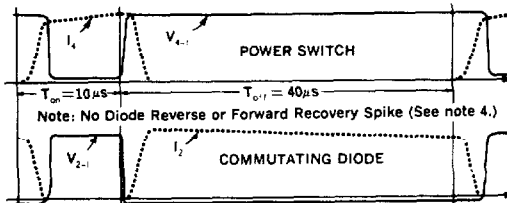

Figure 2. PIC645, 646, 647 Switching Waveforms
- No reverse recovery spike generated by commutating diode (See note 4. and Fig. 2.)
| Voltage Fall Time           | $t_{fv}$     | —              | 70   | 175  | —              | 100  | 300   | ns      | See Figure 2                                      |
- In switching an inductive load, the current will lead the voltage on turn-on and lag the voltage on turn-off (see Figure 2). Therefore, Voltage Delay Time ( $t_{DVI}$ ) =  $t_{di} + t_{ri}$  and Current Storage Time ( $t_{st}$ ) =  $t_{sv} + t_{fv}$ .
- As can be seen from the switching waveforms shown in Figure 2, no reverse of forward recovery spike is generated by the commutating diode during switching! This reduces self-generated noise, since no current spike is fed through the switching regulator. It also improves efficiency and reliability, since the power switch only carries current during turn-on.